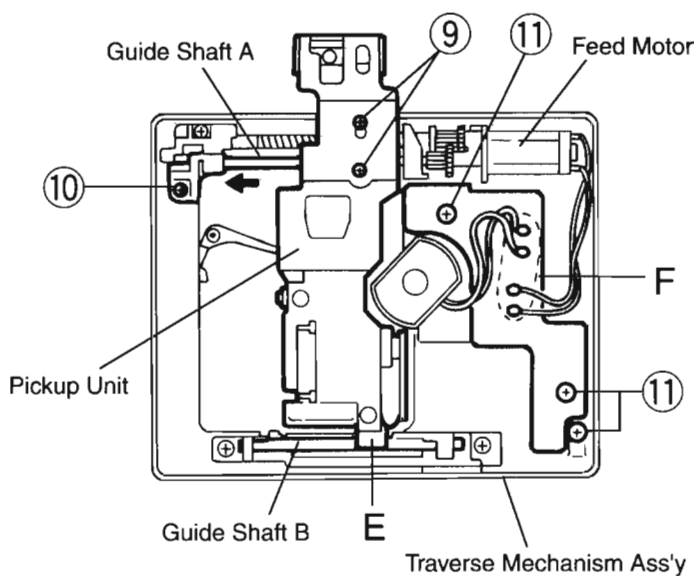

Fig.7
5) Removing the Pickup Unit (see Fig.7)
1. Turn the traverse mechanism assembly upside down, and remove the two screws ⑨ attaching the pickup and the head assembly.
2. Remove the screw ⑩ attaching the guide shaft A.
6) Reassembling the Pickup Unit (see Fig.7)
(see Fig.7 and 8)
1. Turn the traverse mechanism assembly upside down, and remove the pickup following the procedure mentioned in 5)(see Fig.7).
2. Remove the feed motor assembly following the procedure mentioned in 7)(see Fig.7 and 8).
4. The removed turn table may be Remove the three screws ⑬ attaching the gear base assembly.
5. Remove the one screw ⑭ attaching the lead shaft. Detach the lead shaft together with the gear base assembly and the magnet.
6. Remove the two screws ⑮ attaching the spindle motor.